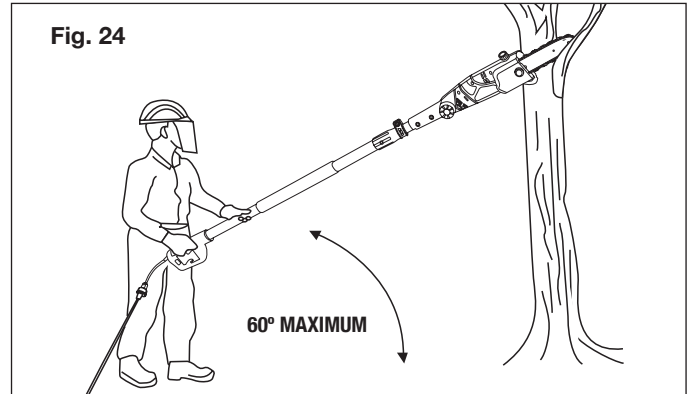

Fig. 24
- The most typical cutting application is to position the unit at an angle of 60° or less depending on the specific situation (Fig. 24). As the angle of the pole chain saw shaft
- Take the proper stance in front of the tree with the saw OFF (Fig. 24).